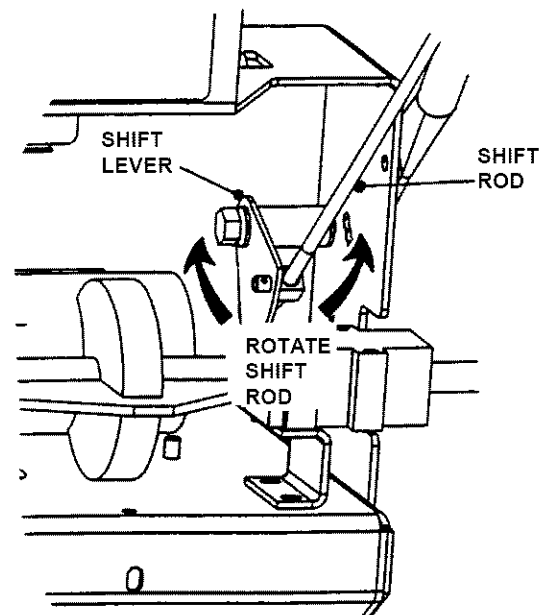

FIGURE 5.6
3. Rotate the shift rod clockwise or counter clockwise to allow the upper portion of shift rod to be inserted into the ground speed control lever without moving the speed control lever or the transmission shift lever. Reinstall hair pin. See Figure 5.6.